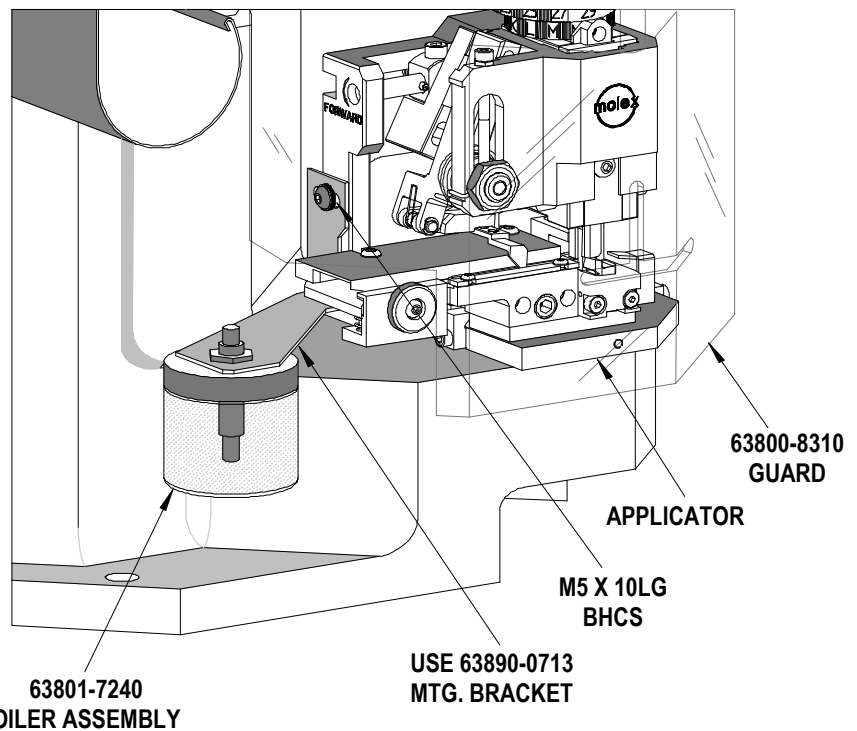

Figure 1
6. Mount terminal oiler assembly with bracket on the frame of the FineAdjust or Mini-Mac Applicator. See Figure 1